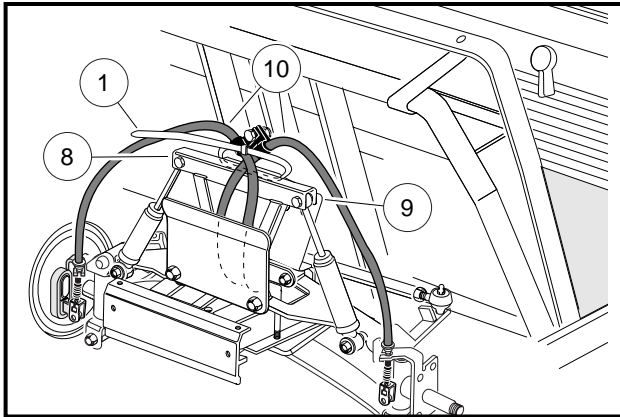

Figure 6-20 Secure Front Brake Cables
7. Connect the cables to the brake actuator arms using new clevis pins (3) and cotter pins (2).
8. Secure the two brake cable clamps (5) together with a bolt (4) and nut (6). Secure the clamps three inches above the shock tower.
9. Install, but do not tighten the large white wire tie (1) under the steering support (9), over the shock tower (8), and around the brake cables (10) as shown (**Figure 6-20, Page 6-13**). See also, **Figure 6-18, Page 6-11**.